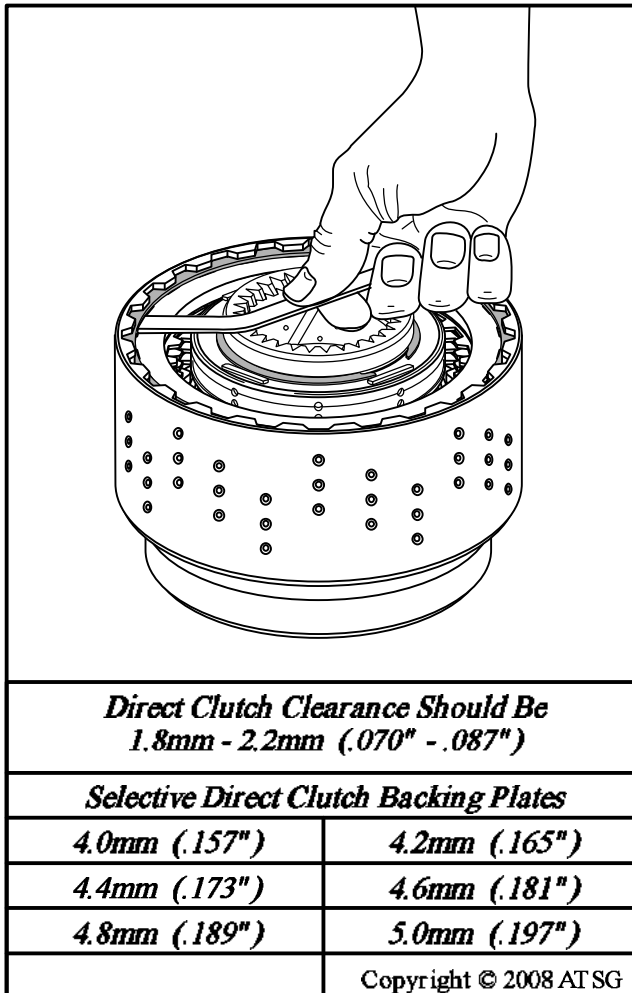

Figure 120
15. Check the direct clutch clearance using a feeler between the backing plate and snap ring, as shown in Figure 120.
16. Change "selective" backing plate as necessary using the chart in Figure 120.